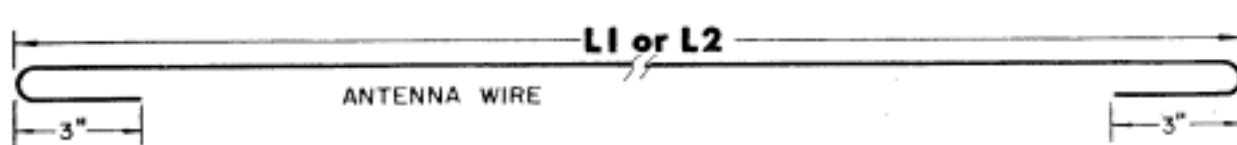

Figure 2 Antenna Wire Measurements
Cut the 40-meter wire (LI) to either Phone or Continuous Wave (CW) dimensions as shown in Figures 2 and 3. Add an extra three inches on each end for attaching to the center insulator and 40-meter trap. *Example:* LI length for CW operation is 19' 8 1/4". Add six inches, three inches each end, which makes a total length of 20' 2 1/4". Each insulator or trap requires three inches for proper attachment.
Carefully remeasure the antenna wire connected to the center insulator and bend the wire for attachment to the 40-meter trap as shown in Figures 2 and 3.
Bend one end of the wire and attach to the 40meter trap as shown in Figures 2 and 4. Do not forget to clip off the excess wire extending past the wire lock.